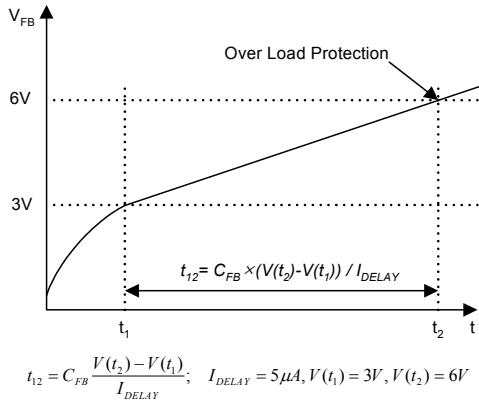

Figure 6. Over Load Protection (OLP)
**4.1 Over Load Protection (OLP) :** Overload is defined as the load current exceeding a pre-set level due to an unexpected event. In this situation, the protection circuit should be activated in order to protect the SMPS. However, even when the SMPS is operating normally, the over load protection (OLP) circuit can be activated during the load transition. In order to avoid this undesired operation, the OLP circuit is designed to be activated after a specified time to determine whether it is a transient situation or an overload situation. In conjunction with the Ipk current limit pin (if used) the current mode feedback path would limit the current in the Sense FET when the maximum PWM duty cycle is attained. If the output consumes more than this maximum power, the output voltage (Vo) decreases below its rating voltage. This reduces the current through the opto-coupler LED, which also reduces the opto-coupler transistor current, thus increasing the feedback voltage (Vfb). If Vfb exceeds 3V, the feedback input diode is blocked and the 5uA current source (IDELAY) starts to charge Cfb slowly up to Vcc. In this condition, Vfb increases until it reaches 6V, when the switching operation is terminated as shown in Figure 6. The shutdown delay time is the time required to charge Cfb from 3V to 6V with 5uA current source.